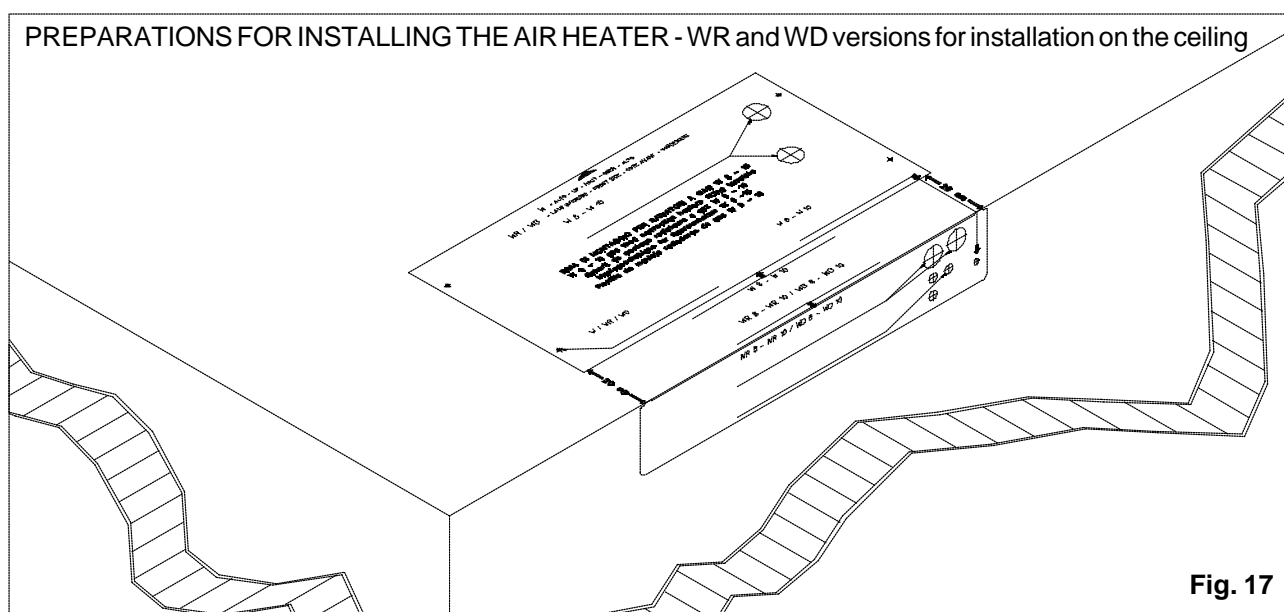

Fig. 17
**Versions for ceiling installation (WR and WD):** Once the unit's position has been determined, bend the supplied paper template on the dashed line and apply it to the ceiling with adhesive tape (*fig. 17*).
holes that must go through the wall for the exhaust and intake ducts. These holes must be made as perpendicular as possible to the wall with a core drill having a diameter of 70 mm (*fig. 17*).